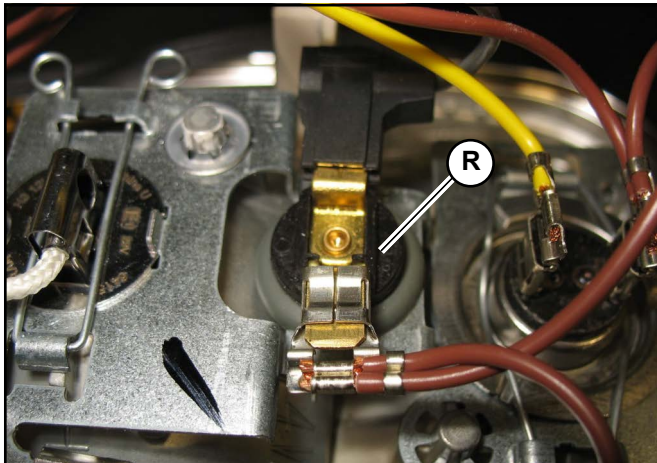

Fig. 245 – Marker Bulb Mounting
1. Pull marker bulb socket (R, Fig. 245) out of the headlight housing.